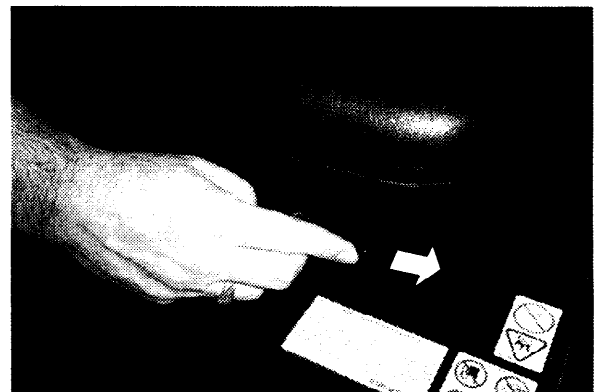

Figure 14
- Adjust operator seat to desired position. Move lever to the left and slide seat backward or forward to adjust (Fig. 14).